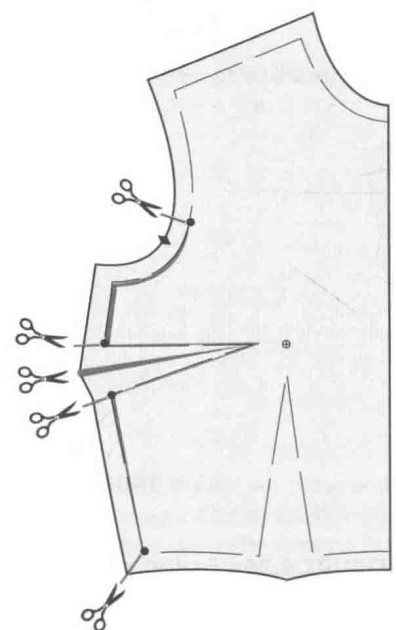

FIGURE 6.26d Clip hinges across seam allowance, cutting to but not through the stitching line.
6. Clip the lines drawn across the seam allowance. Clip to, but not through, the pivot point on the stitching line. This creates a sort of “hinge” at the stitching line that allows you to move the seam allowance in or out, and the seam allowance to lie flat. Smaller scissors indicate where to clip. Clip carefully (see Figure 6.26d).